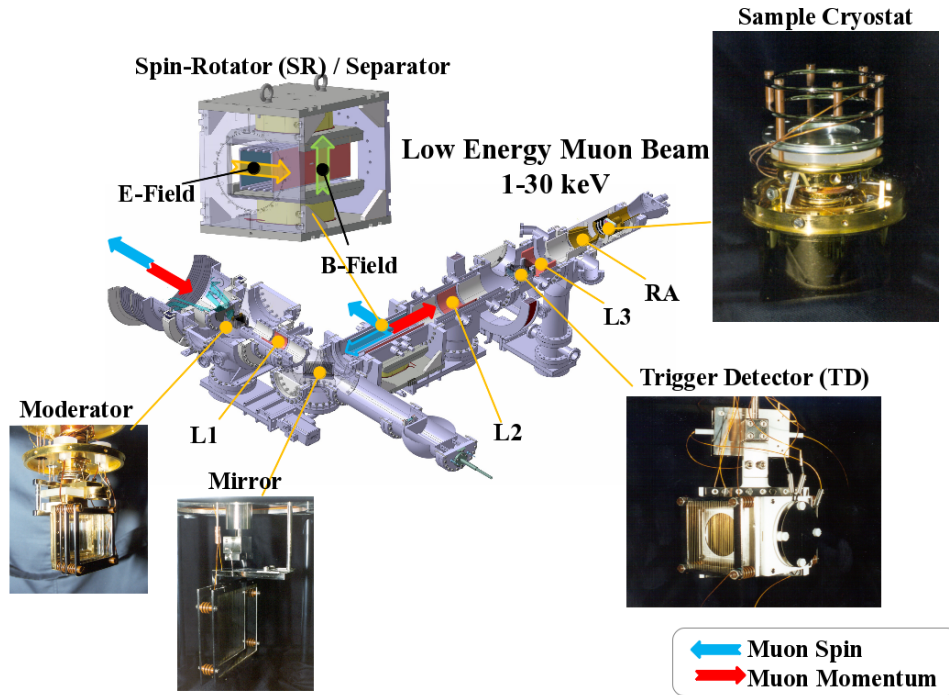

Figure 2.1: A schematic of the LEM beam line showing the different components starting from the moderator until the sample cryostat.
The LEM spectrometer[1, 2] is a unique instrument that enables muon spin precession and relaxation (μ SR) measurements in thin films and multilayers. This is possible due to the tunable implantation energy (1-30 keV) of the muons, allowing depth resolved μ SR measurements between 1-300 nm. A schematic of the LEM beam line is shown in Fig. 2.1. Fully polarized surface
muons at ~ 28 MeV/c are stopped in a solid gas moderator (see Chapter 4 for details). They are then re-accelerated using a set of grids at a high voltage (see Moderator in Fig. 2.1), focused using an Einzel lens, L1, and deflected by 90° using an electrostatic mirror. This deflection insures that only slow muons (at a selected energy) continue in the direction of the sample. The
The geometry of the LEM beam line results in a muon spin polarization that is nominally parallel to the surface of the studied samples, as shown in Fig. 2.1. The muon spin can be rotated horizontally using the SR to any angle between $\pm 90^\circ$ relative to the surface of the sample. Two magnets can be used on the LEM spectrometer, the WEW (B perpendicular) magnet produces fields in the range -350 to $+350$ mT along the muon beam direction while the AEW (B parallel) magnet produces fields in the range 0 to 25 mT along the up-down direction. Therefore, one can perform zero field (ZF), transverse field (TF) as well as longitudinal field (LF) μ SR measurements on the LEM spectrometer. A summary of important characteristics of the beam line, muons beam and spectrometer are summarized in Table 2.1.